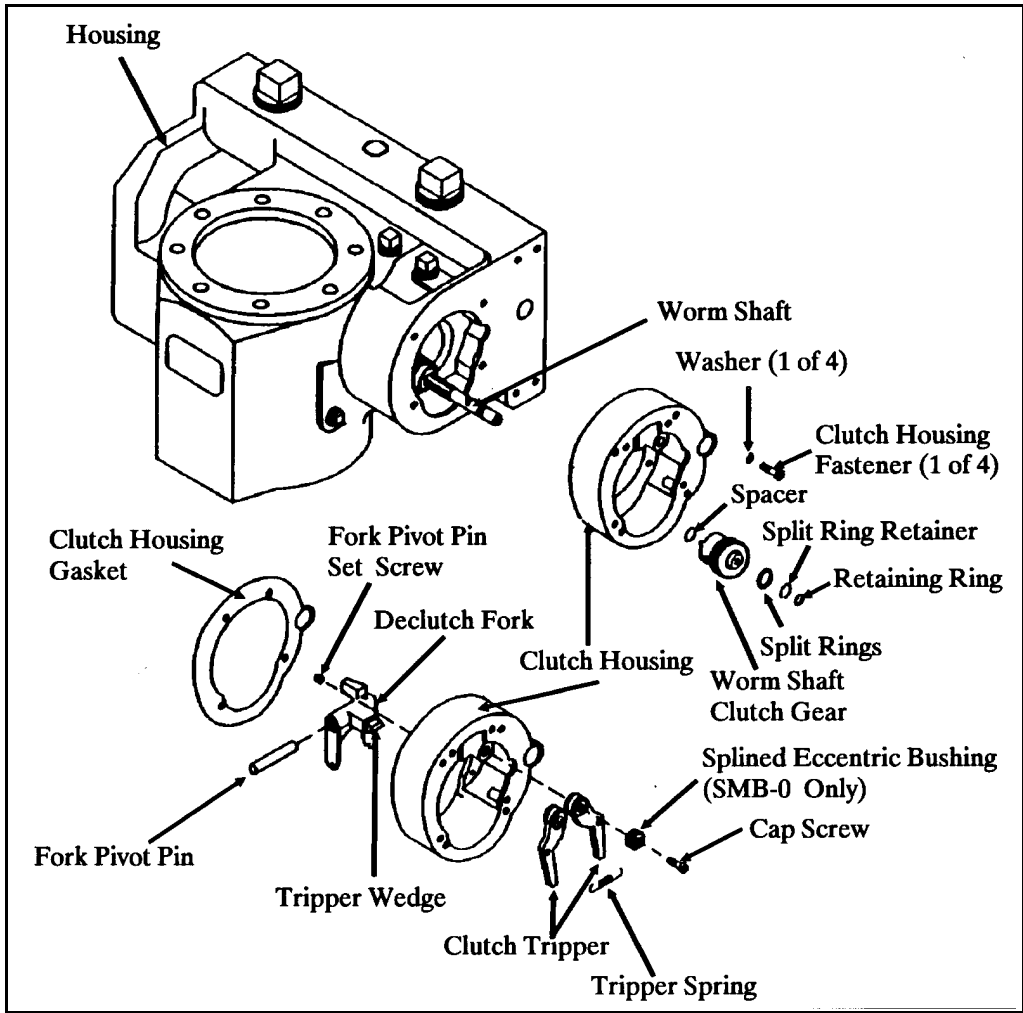

Figure 6-11 Clutch Housing Assembly and Installation
10. Clutch Housing Removal Refer to Figures 6-11 and 6-12
18. Clutch Housing Disassembly Refer to Figure 6-11